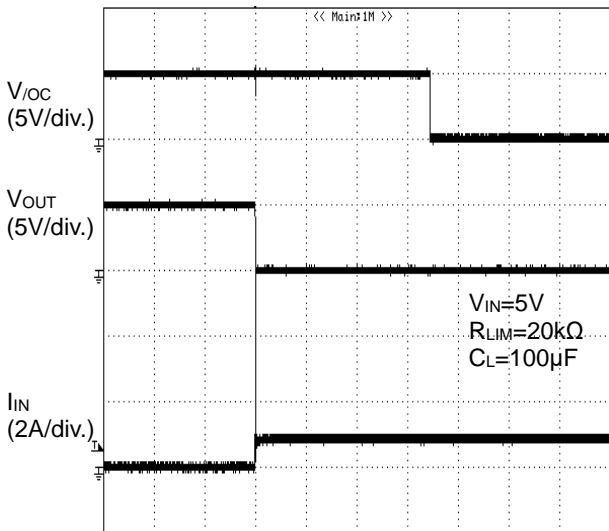

Figure 47. Over Current Response
(2) When the output short-circuits or high capacity load is connected while the switch is on, very large current flows until the over-current limit circuit reacts. When the over-current detection and limit circuit operates, current limitation is carried out. (See figure 47,48.)